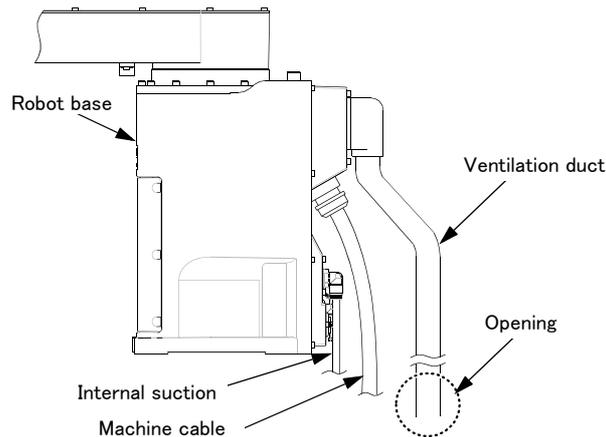

Fig.2-8 : Installation of Ventilation Duct
- 3) The ventilation duct is attached to the robot arm rear (refer to Fig. 2-8). As the Z axis moves up and down the volume of the bellows varies, and air is sucked in and released out of the robot's ventilation duct opening. Be sure to locate the ventilation duct's opening in a position that will not affect the robot's cleanliness.